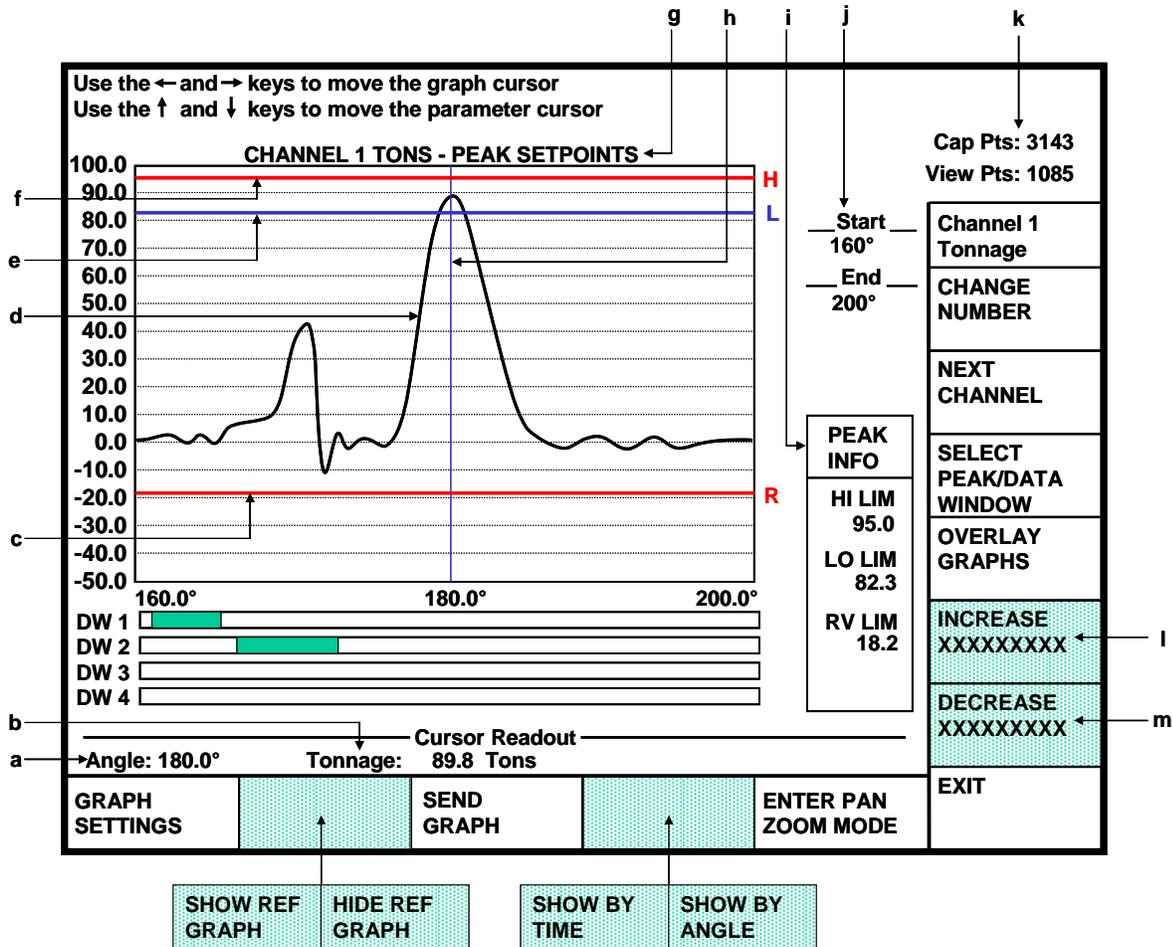
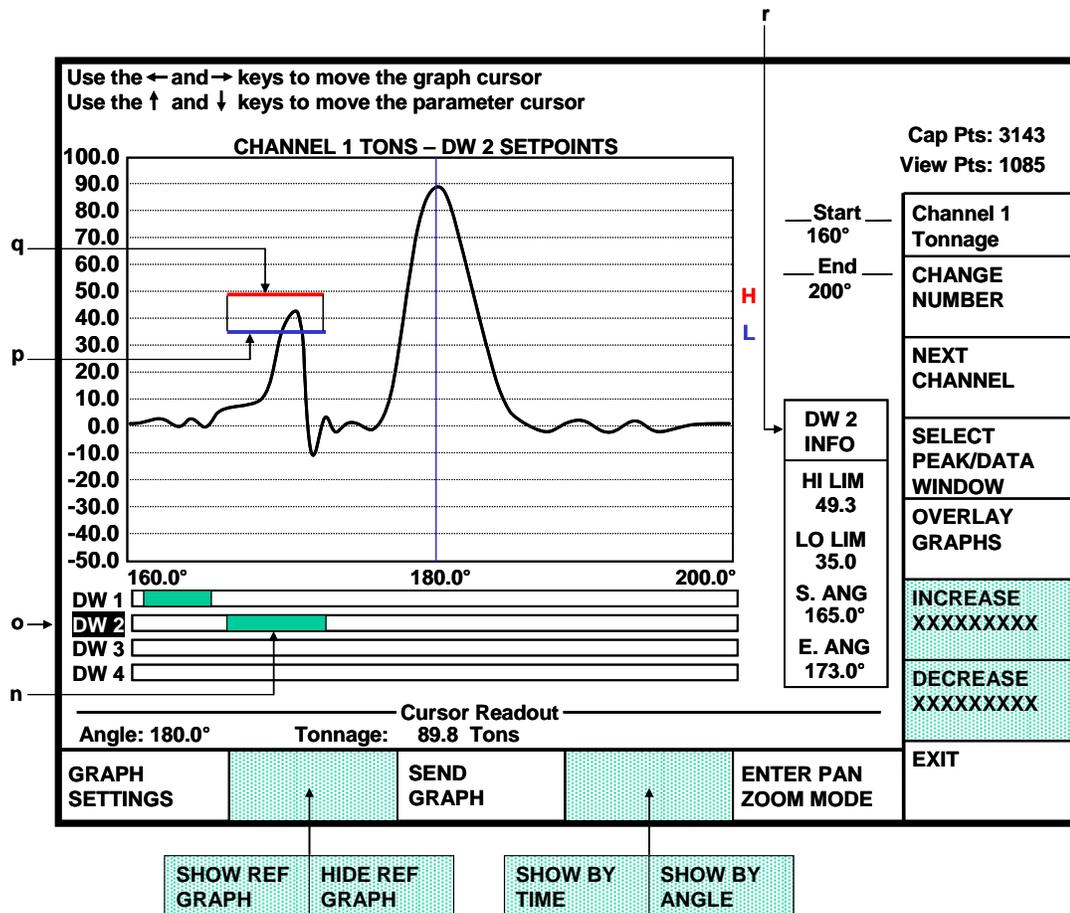
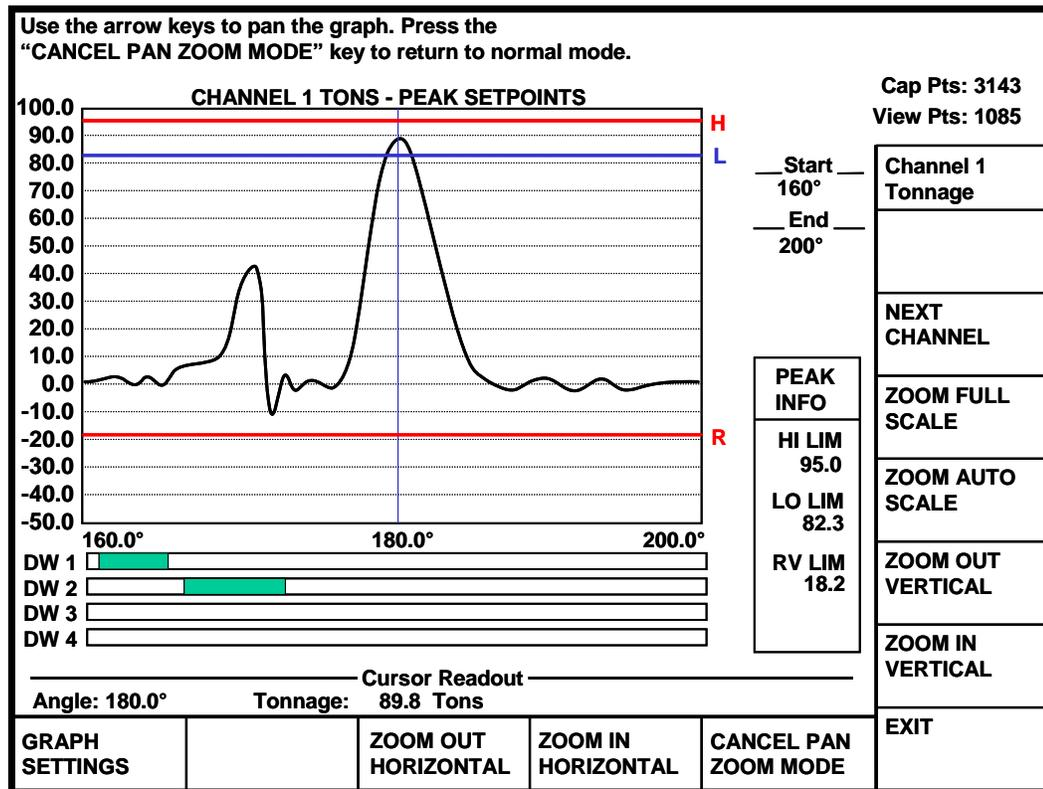

Figure 10: Example Tonnage Waveform with Peak Settings Selected for View
Figure 11: Example Waveform with Data Window 2 Settings Selected for View
Figure 12: Example Tonnage Waveform in Pan/Zoom Mode
Figure 10 shows an example screen viewing peak tonnage information, Figure 11 shows the same screen when viewing “data window 2” information, and Figure 12 shows the screen when in Pan/Zoom mode. Notice that the shaded softkeys in these figures change depending on the circumstances.
In Figure 10, some of the features of the screen are:
- a) **Cursor Angle** The angle at which the vertical measuring cursor (at 180 degrees in Figure 10 and pointed to by “h”) is sitting.
- b) **Cursor Tonnage** The numeric value of tonnage where the vertical measuring cursor (at 180 degrees in Figure 10 and pointed to by “h”) crosses the tonnage waveform.
WINDOW Softkey** This softkey cycles through the peak and data window settings for the currently displayed channel and graphically displays the setpoints on the graph. Figure 10 is an example of a peak display while Figure 11 is an example of a data window display.
MODE Softkey** This softkey puts the screen in Pan/Zoom mode to allow for easier adjustment of the part of the tonnage signature viewed. See Figure 12 for an example of what the screen looks like in Pan/Zoom Mode.
Figure 11 shows an example tonnage monitor graph screen when viewing a data window. For the most part, the screen is the same as when viewing peak tonnages.
In Figure 11, some additional or different items on data window views are:
Figure 12 shows an example of a graph screen in Pan/Zoom Mode. This mode allows easy zooming and panning of the waveform on the screen.
In Figure 12, some points of interest are:
The NEXT CHANNEL softkey cycles through the channels displayed by the graph. A four channel tonnage monitor will cycle through channel 1, channel 2, channel 3, channel 4, total tonnage, and then back to channel 1. Likewise, a two channel tonnage monitor will cycle through channel 1, channel 2, total tonnage, and then back to channel 1. The channel being displayed is indicated in the title above the graph as shown by “g” in Figure 10.
The information box (“i” in Figure 10 for peak settings and “r” in Figure 11 for data window settings) contains settings that apply to the current channel being viewed. Note that the information displayed depends on whether peak or data window information is selected. Change the channel using the NEXT CHANNEL softkey and the set of parameters using the SELECT PEAK/DATA WINDOW softkey. Note that the graph title (shown as “g” in Figure 10) always indicates the channel and whether the peak or a data window is currently being viewed. The values in the information box can be edited by using the up and down arrow keys to place the editing cursor on the parameter to change. Assuming the operator has access (via RUN/PROG key or access code), the numeric keypad can be used to key in a new value or the DECREASE (m) and INCREASE (I) keys can be used to decrement or increment the value. The graph will immediately reflect the changes made. By holding down the DECREASE and INCREASE keys the operator can effectively “drag” the setpoint graphically to where it needs to be. The key thing to remember is that the INCREASE and DECREASE keys apply to the value the editing cursor is currently on.
To display a reference waveform, press the SHOW REF GRAPH softkey (as seen in Figure 10). Note that this softkey will only be displayed if a reference waveform has been previously stored for the current job. The reference waveform will show in green, overlaid with the current waveform which will still be in black. Once the reference waveform is displayed, the SHOW REF GRAPH key changes to HIDE REF GRAPH. Pressing this key again will remove the reference waveform from the screen leaving only the current waveform.